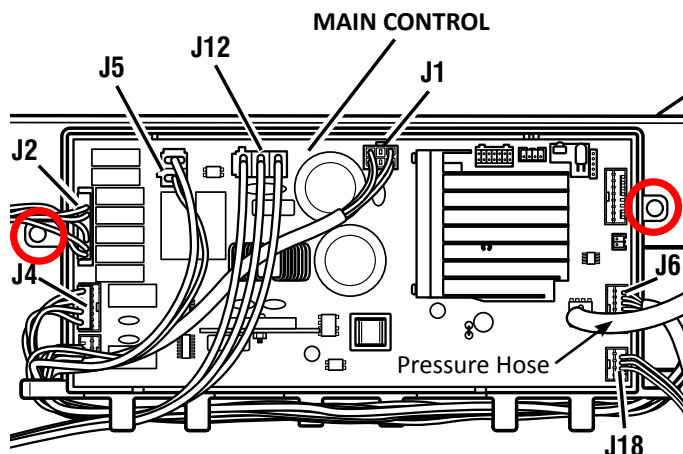

Figure 1
4. Remove pressure hose from Main Control (see Figure 1).